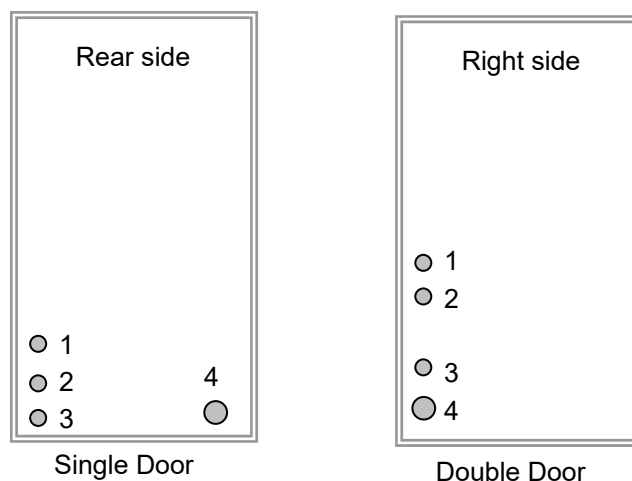

Figure 2
B. Make sure that all steps as shown above are connected correctly, and then supply the distilled water to the water inlet as shown in position 1 of Figure 2. Water will be filled automatically until "FULL" water level reached when power on and start the autoclave.